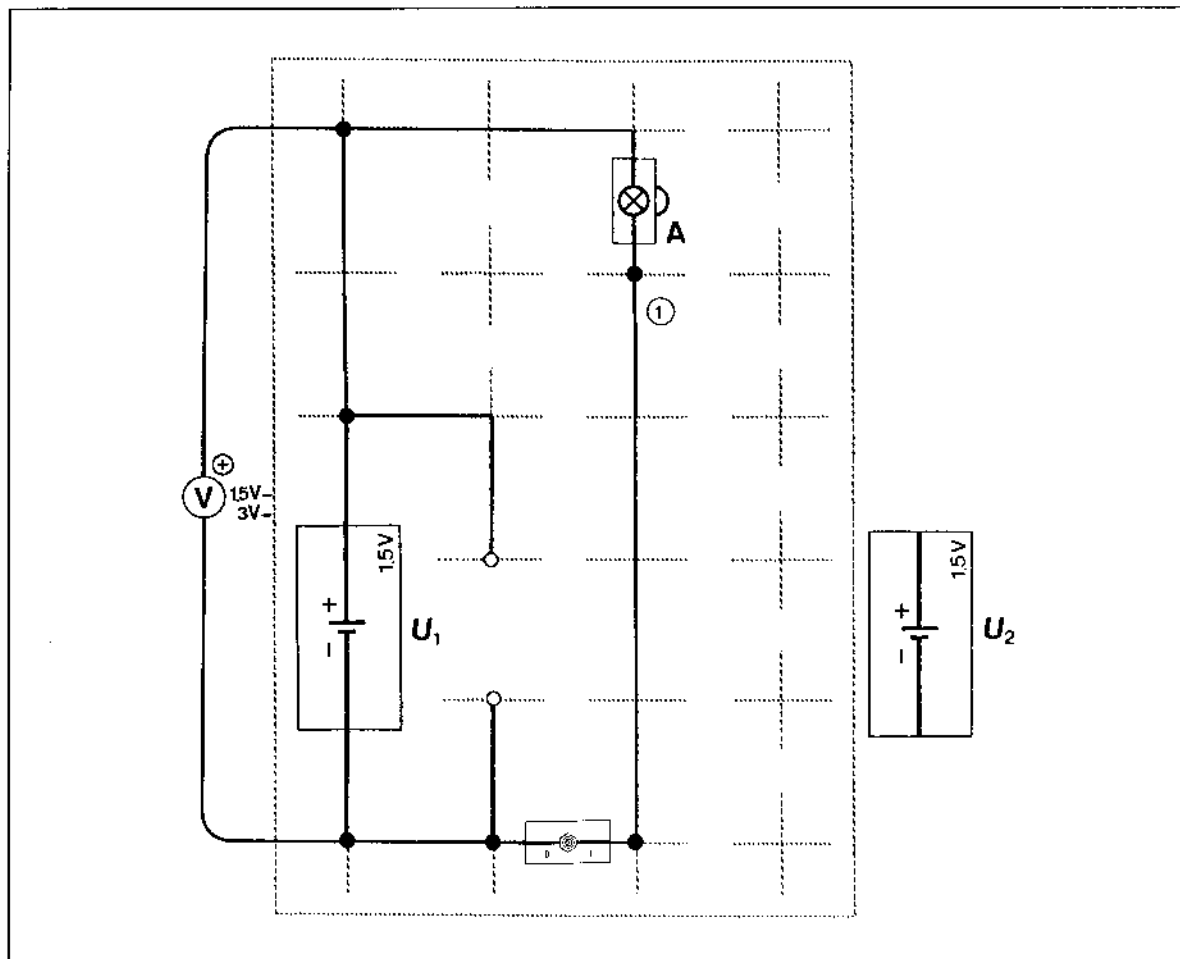

Fig. 2 Experiment setup: Connecting monocells in parallel ► 7.
7. Change the circuit round as shown in fig. 2.